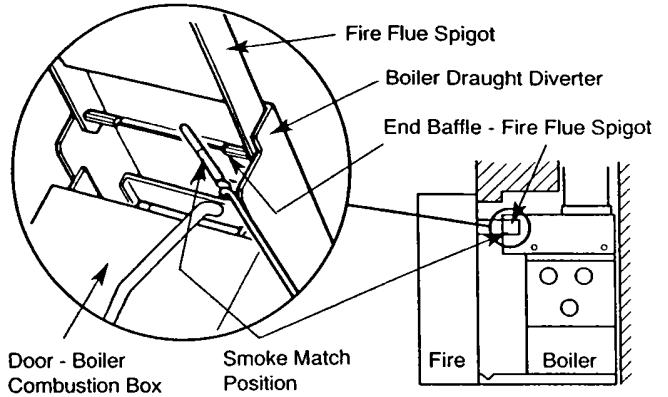

Fig. 8 Spillage Test
- After 5 minutes take a smoke match and insert it into the boiler draught diverter in the position shown (Fig.8). If the majority of the smoke is not drawn into the chimney spillage is indicated and the fire must be operated for a further 10 minutes before rechecking. If spillage is still evident the cause must be ascertained and rectified before continuing with commissioning.